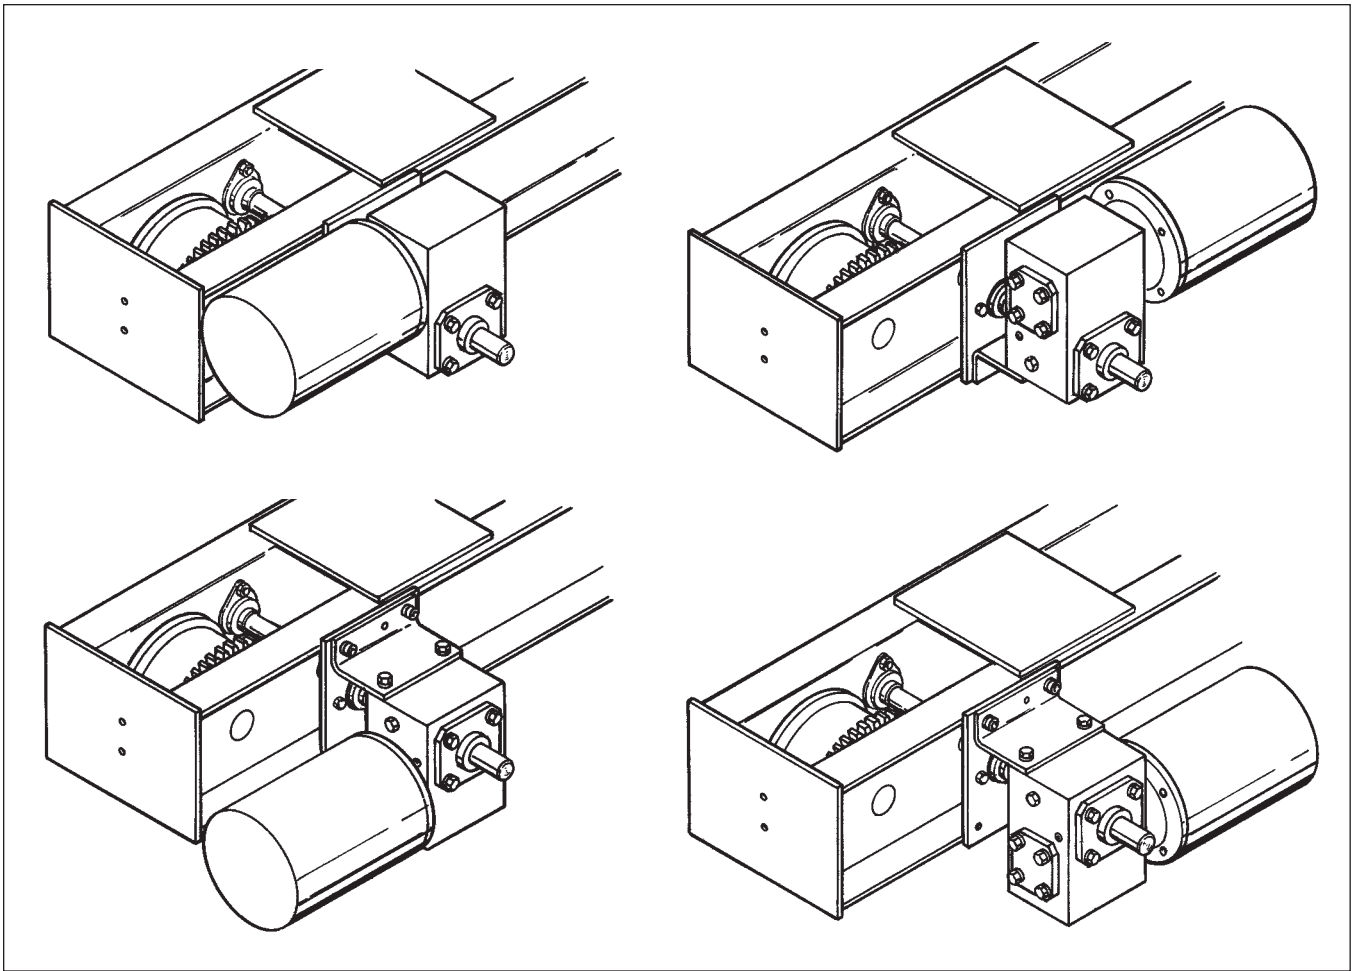

Figure 14
4. Bolt the motor to the gear reducer with four hex head bolts and lockwashers and bolt the support plate to the gear reducer with two hex socket head cap screws and lockwashers. The drive may go on either end of the bridge. Optional motor-gear reducer locations are shown in Figure 14.
2. Bolt the motors to the gear reducers with four hex head bolts and lockwashers orienting the motor junction boxes appropriately after selecting the motor-gear reducer location from the options illustrated in Figure 14. Bolt the support plate to the gear reducer with two hex socket head cap screws and lockwashers.